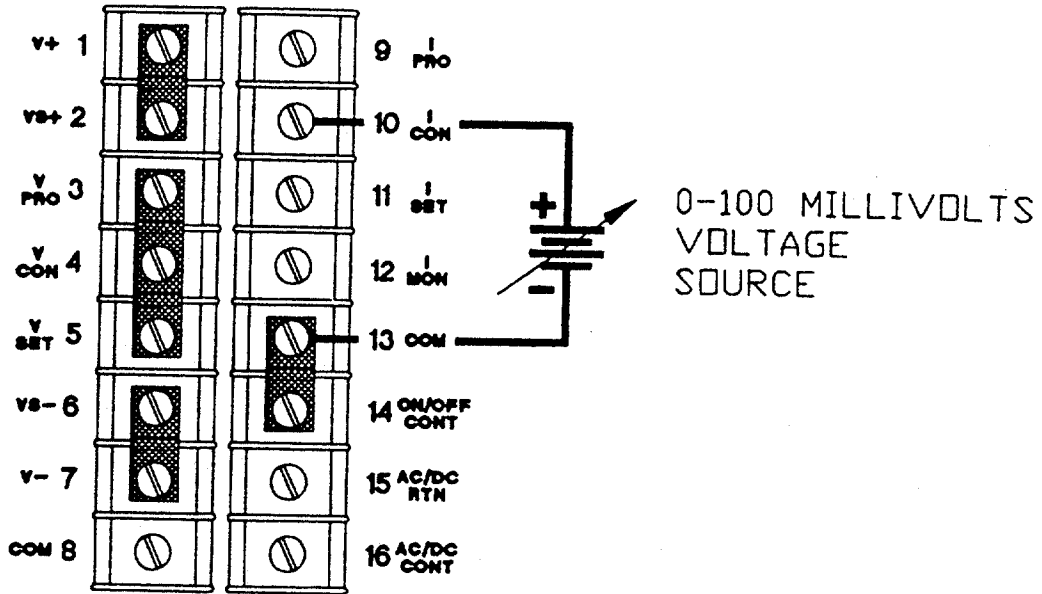

FIGURE 3-4
(2) External Current Programming Using a Voltage Source. The voltage coefficient for remote current programming 1 millivolt = 1% of rated output, i.e., for a 500 amp model each millivolt of programming voltage would equal 5 amps of output current. See Figure 3-4 for strapping requirements.